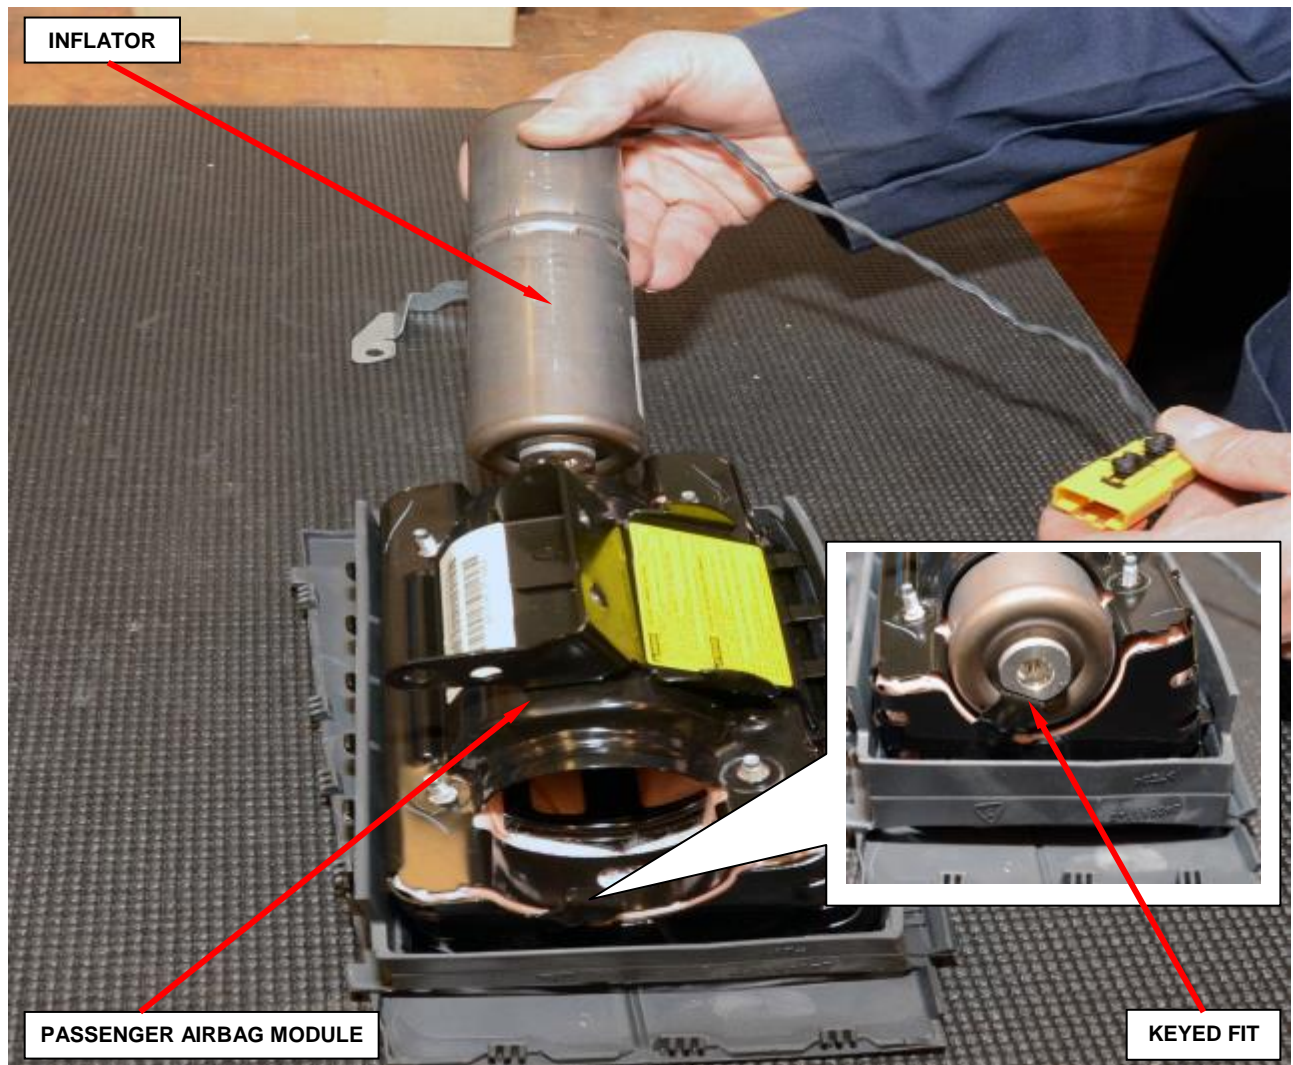

Figure 124 – Passenger Inflator Installation
g. Slide the **new** inflator into the passenger airbag module (Figure 124).
NOTE: The inflator is keyed to fit into the housing (Figure 124).